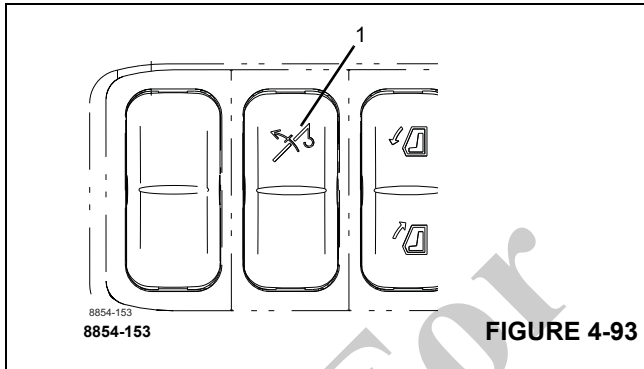

FIGURE 4-93
- Release switch (1), (Figure 4-93).